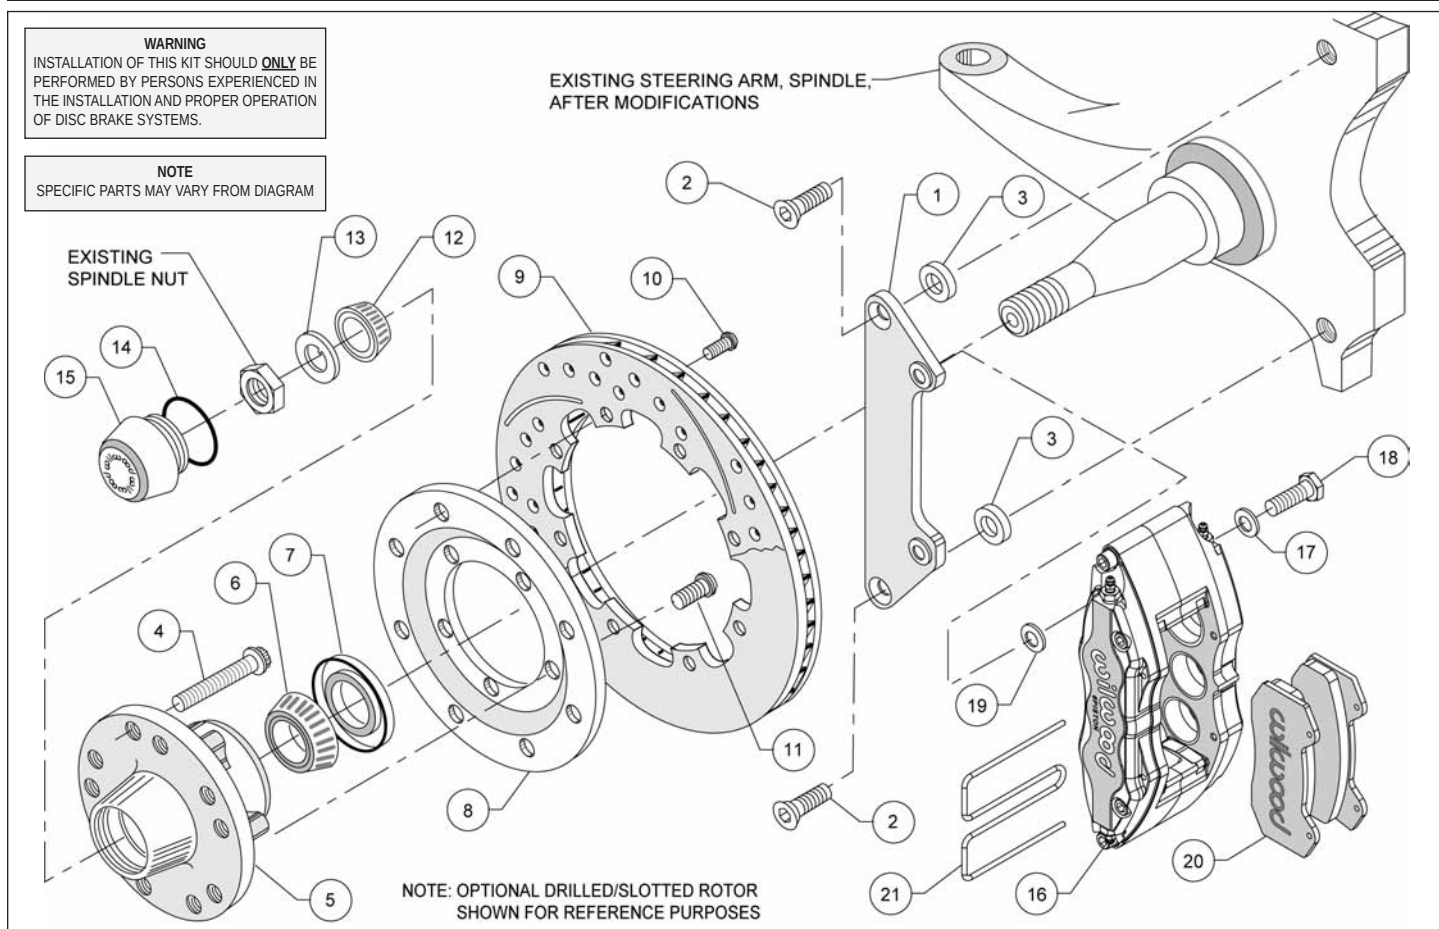
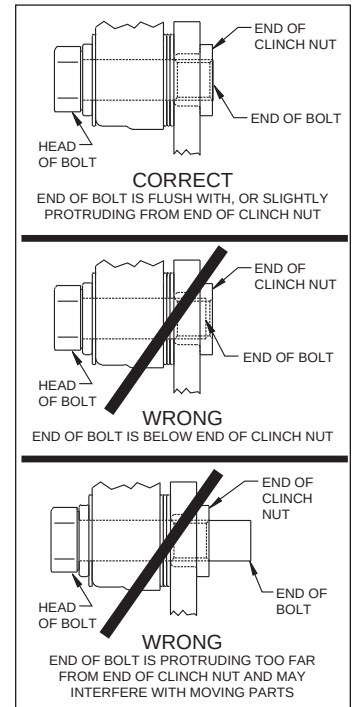

Figure 2. Typical Installation Configuration
Figure 4. Clinch Nut Engagement Diagram
Assembly Instructions (numbers in parenthesis refer to the parts list, and Figure 2): **CAUTION:** All mounting bolts must fully engage clinch nuts. Be sure to check that all bolts are either flush or protruding through flanged side of clinch nut after shimming, Figure 4.
- Orient the caliper mounting bracket (1) with the corresponding holes, to the face of the spindle, as shown in Figure 2. Attach using bolts (2) while positioning spacers (3) between bracket and spindle face. Temporarily tighten the mounting bolts. Ensure that the flanged heads of the clinch nuts in the bracket are facing outboard.
- Pack the large inner bearing cone (6) with high temperature disc brake bearing grease (available from your local auto parts store) and install into the backside of the hub (5), Photo 2.
- Install the grease seal (7) by pressing into the backside of the hub (5), flush with the end of the hub, Photo 2.
- Orient the rotor (9) and the rotor adapter (8) as shown in Figure 2 and Photo 3. Attach the rotor to the adapter using bolts (10). Using an alternating sequence, apply red *Loctite*® 271 to the threads, and torque to 25 ft-lb.
- Mount the adapter/rotor assembly (8/9) to the hub (5) using bolts (11), as shown in Figure 2 and Photo 4. Using an alternating sequence, apply red *Loctite*® 271 to the threads, and torque to 55 ft-lb.
•**NOTE:** Please reference the caution statement at the beginning of the assembly instructions. This kit contains distinct right and left hand calipers that must be mounted in a specific direction, as described below. Mount the caliper (16) onto the caliper mounting bracket (1) using bolts (18) and washers (17), as shown in Figure 2. Initially place two .035" thick shims (19) on each bolt between the caliper and the bracket, Photo 7. Ensure that the caliper is mounted so the largest pistons are at the rotor exit end of the caliper, in relation to the direction of rotor rotation. Temporarily tighten the mounting bolts and view the rotor (9) through the top opening of the caliper. The rotor should be centered in the caliper, Photo 8. If not, adjust by adding or subtracting shims between the bracket and the caliper. Always use the same amount of shims on each of the two mounting bolts. **NOTE:** The end of each bolt must be flush with or slightly protruding from the head of the clinch nut, as shown in Figure 4. If necessary place spare shims between washer (17) and caliper mounting ear to achieve the proper clinch nut engagement. Once the caliper alignment and clinch nut engagement are correct, remove the bolts one at a time, apply red *Loctite*® 271 to bolt threads, and torque to 40 ft-lb.